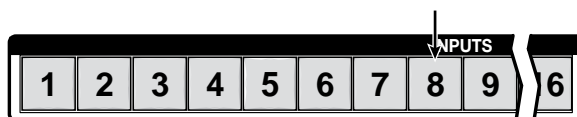

Figure 3-70 — Audio/RS-232 selection
3. To change an input's audio/RS-232 wire pair configuration, press and release the input button to toggle that input's configuration (figure 3-70).